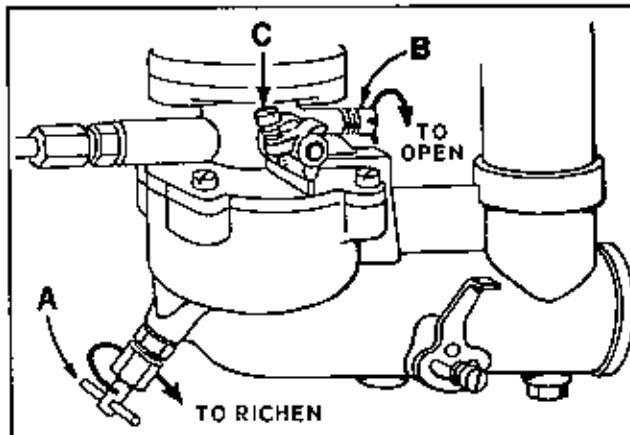

Figure 18. Carburetor adjustments.
1. See figure 18. Turn the needle valve (A) clockwise until it just closes. **CAUTION: VALVE MAY BE DAMAGED BY TURNING IT IN TOO FAR.**
2. Open the needle valve (A) one and one half turns counter-clockwise.
3. Turn the idle valve (B) clockwise until it just closes.
4. Open idle valve (B) one half to three quarter turns.
3. See figure 18. Turn needle valve (A) clockwise until engine misses, (Lean mixture), then turn it out (counter-clockwise) past the smooth operating point, until the engine runs unevenly (Rich mixture). Now turn needle valve (A) to the mid-point between the rich and lean mixture so the engine runs smoothly.
4. Move the engine speed control lever to the slow position, and set the idle speed adjusting screw (C) so a fast idle is obtained (1200 RPM). Hold the throttle in this idle position and turn the idle valve (B) clockwise (lean) and counter-clockwise (rich) until the engine idles smoothly.
5. Reset the idle speed so the engine idles at 1200 RPM. Push the engine speed control lever forward to the fast position, the engine should accelerate without hesitation or sputtering. If the engine does not accelerate properly, readjust needle valve (A) to a slightly richer mixture.